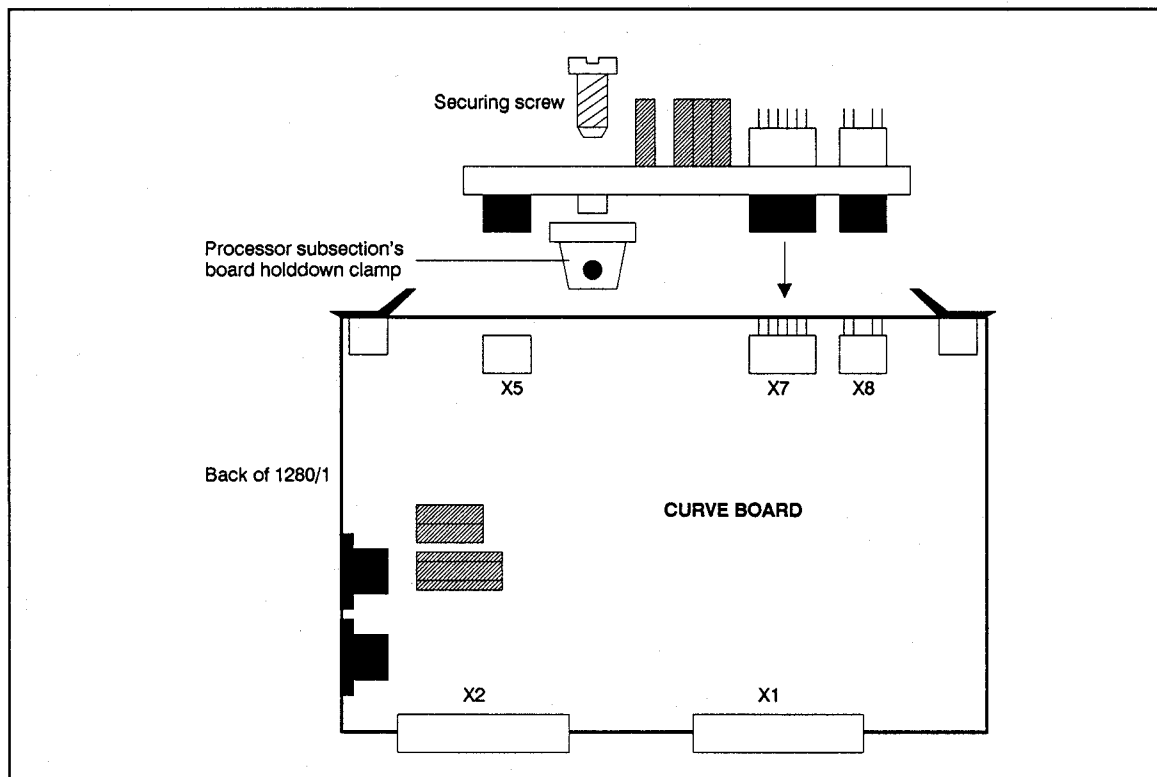
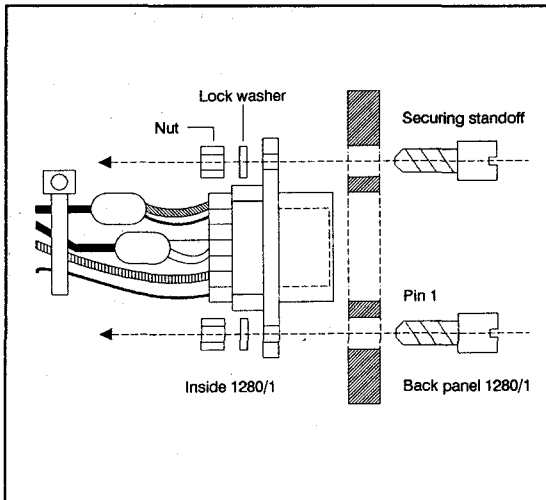

Figure 4-4. Line Driver Board Installation
Figure 4-5. Line Driver Board D Connector Mounting Detail
unit is to be connected to the monitor. Refer to Chapter 3, Section 3.18 for additional information. Figure 4-4 illustrates the location of the board.
3. Remove the screw securing the board to the monitor board hold-down bar, and the two mounting screws and washers securing the wire harness D connector to position X3 on the back of the monitor. See Figure 4-4 and Figure 4-5.
1. Install the output wiring harness D connector on the rear of the monitor chassis at position X3. Refer to Figure 4-5.
2. Plug Line Driver Board connectors X3, X4, and X5 into Curve Board connectors X5, X7, and X8. Refer to Figure 4-4.